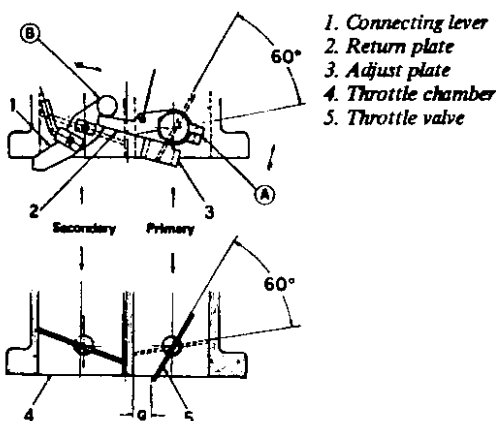

Fig. B.9 Adjusting the throttle valve interlock opening - DAK340 carburettor
With the primary throttle valve of the type DAK340 carburettor opened to 60° as shown in Fig.B.9, the adjusting plate (3) should contact the connecting lever (1). This being the point before the secondary throttle valve is brought into operation. The linkage between primary and secondary throttles is working correctly if the clearance 'G' between primary throttle valve and the wall of the chamber is 7.38 mm (0.3937 in.). Adjust, if necessary, by carefully bending the adjusting plate at point 'A', until the correct setting, is obtained.